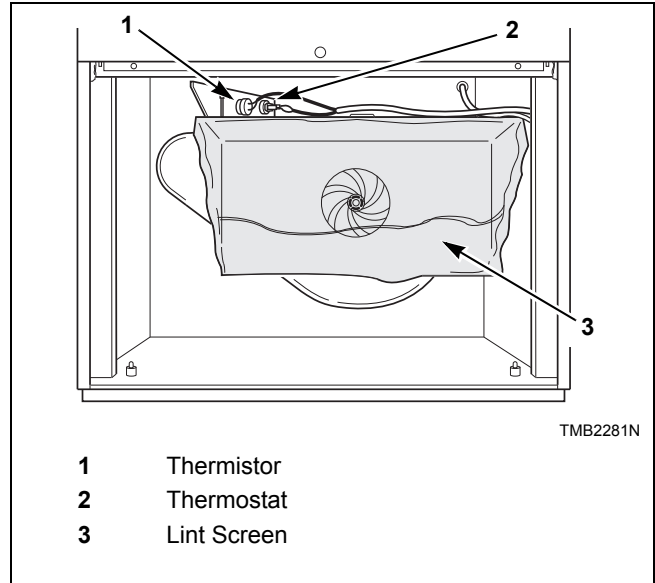

Figure 60
- e. Wipe lint off of the cabinet high limit thermostat and thermistor. Refer to *Figure 60*.